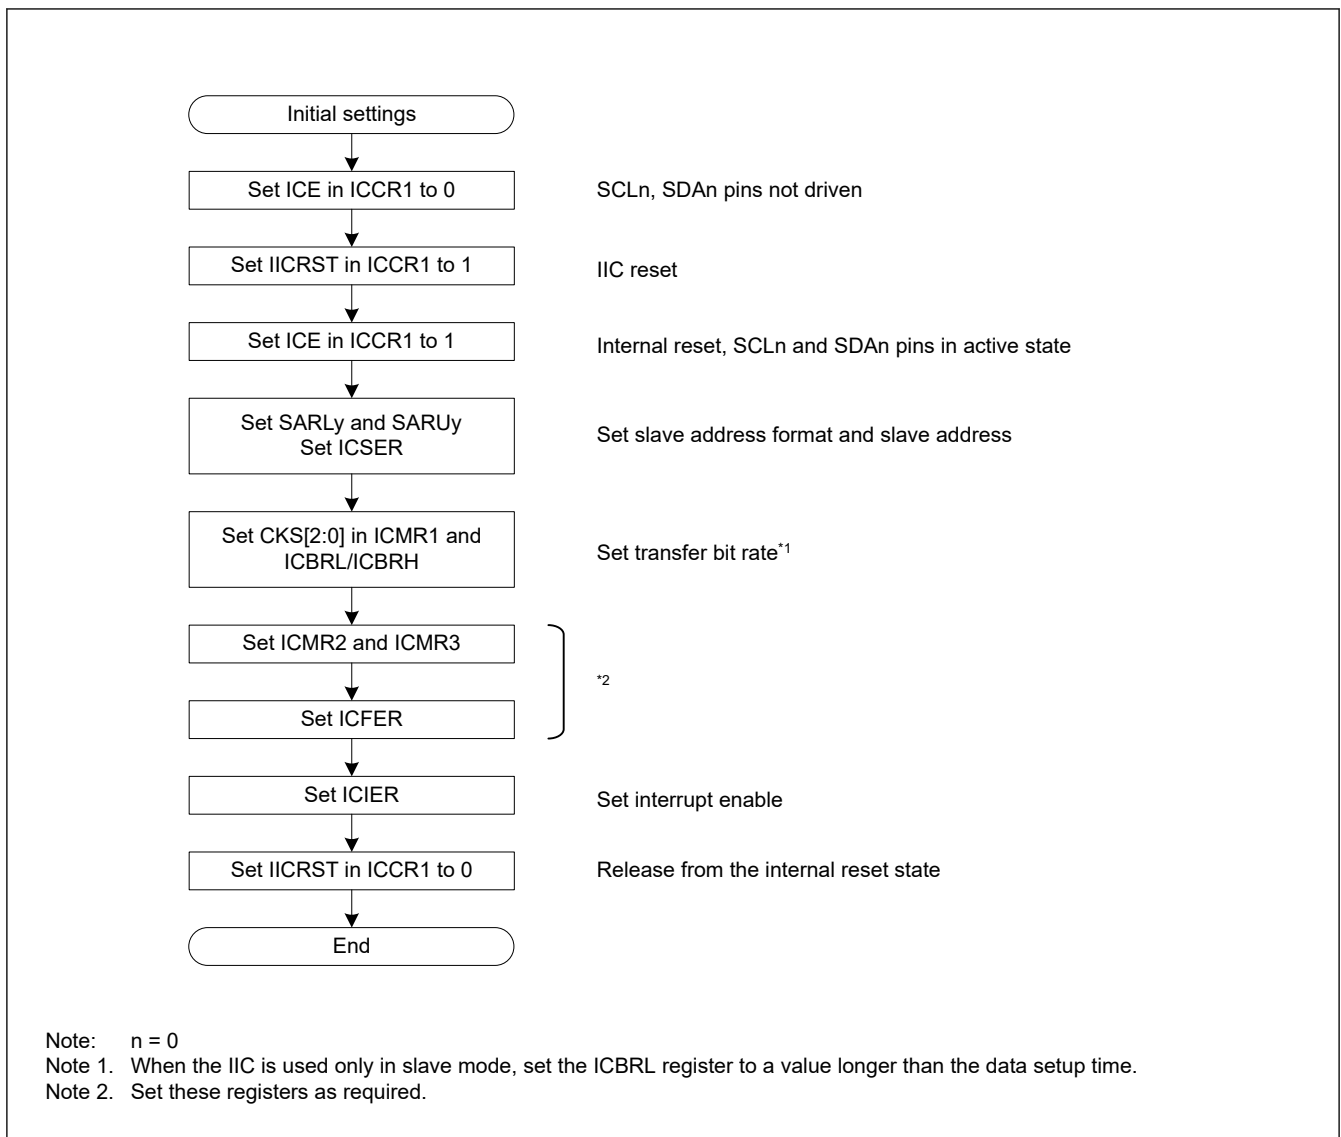

Figure 27.5 Example IIC initialization flow
Before starting data transmission or reception, initialize the IIC using the procedure shown in Figure 27.5.
4. Set the SARLy, SARUy, ICSEr, ICMR1, ICBRH, and ICBRL registers (y = 0 to 2), and set the other registers as required. For initial settings of the IIC, see Figure 27.5.